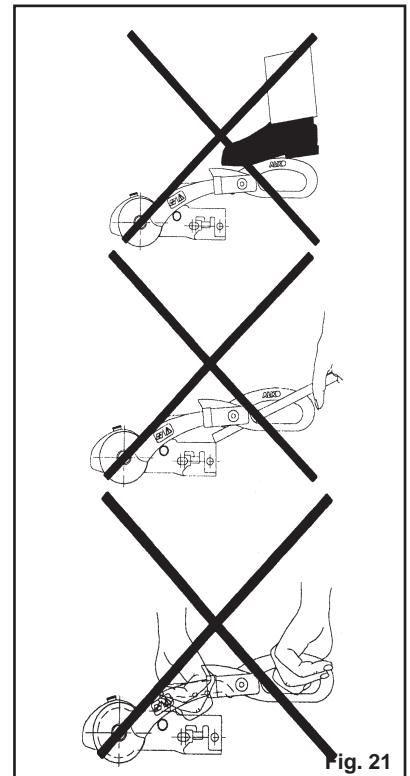

Fig. 21
2) Press stabiliser lever down by hand force only DO NOT use your foot or an extension bar, this will damage the components (Fig. 21).
3) When opening or closing the stabiliser lever, please ensure your hand does not touch the coupling handle - you may accidentally trap your fingers! (Fig. 21).